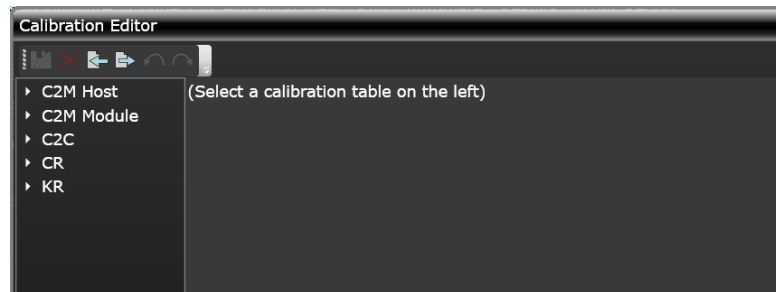

Figure 20 Calibration Editor window
- 2 In the **Calibration Editor** window that is displayed (Figure 20), click a standard option from the left pane.